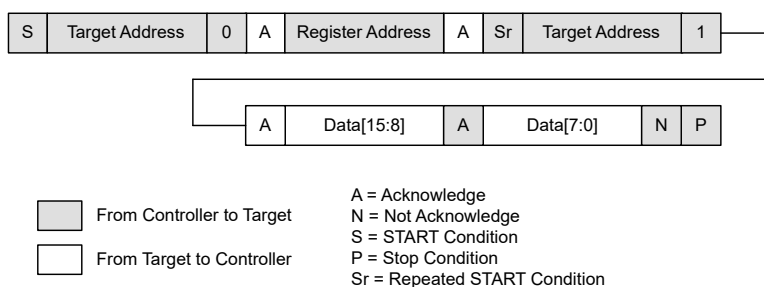

图 7-23. Read A Single Register
7.5.1.5.3 Reading a Single Register (图 7-23)
图 7-23 shows a diagram of this protocol. Steps for this protocol are: